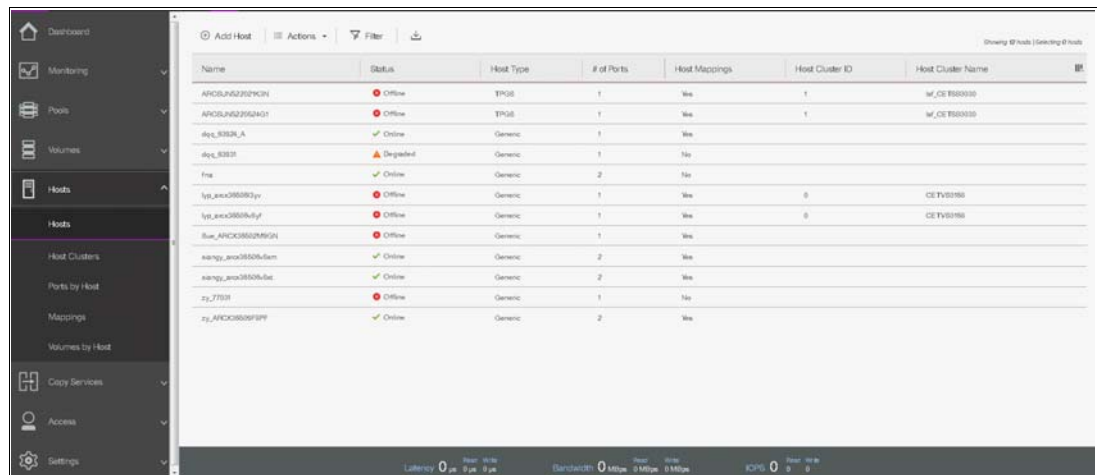

Figure 5-38 Open the Hosts window
1. Open the Hosts configuration window by clicking **Hosts** (Figure 5-38).